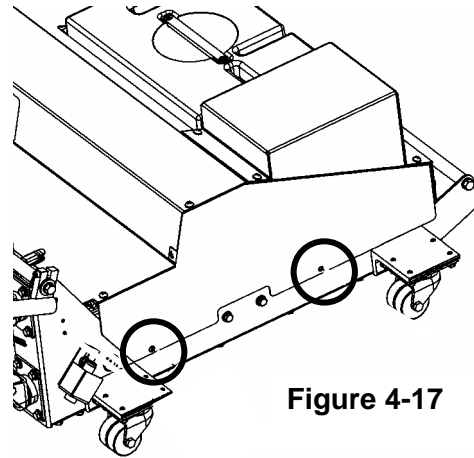

Figure 4-17
1. Remove the two screws on each side of the hood, as shown in Figure 4-17, and lift the hood off the frame. Set aside the screws.